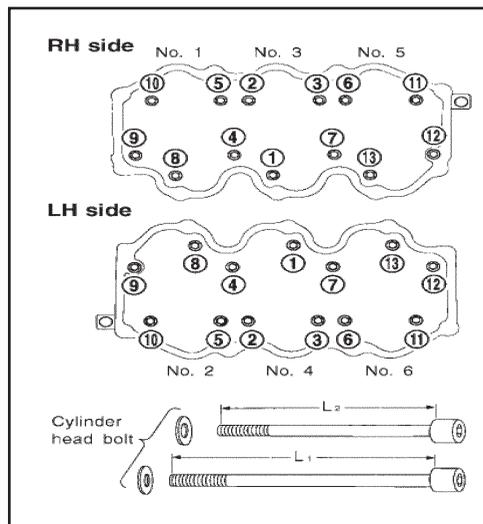

Figure 4 Install the washers between the bolts and cylinder head with the washer beveled side up on Nissan 3.3L engine.
2) Install the washers between the bolts and cylinder head with the washer beveled side up as shown in **Figure 4**, right.